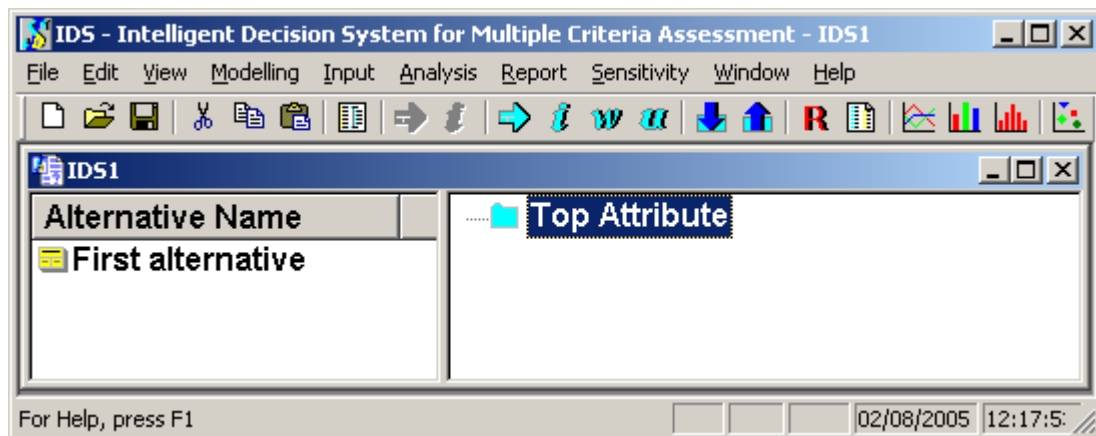
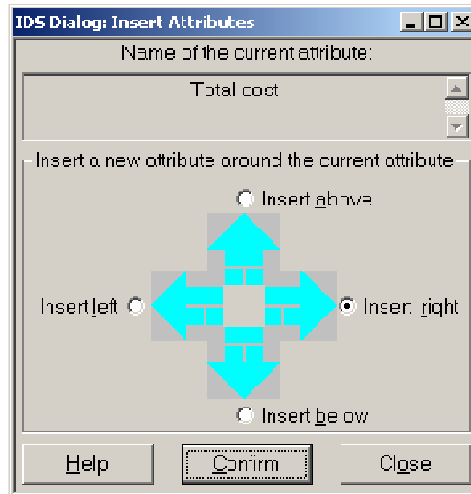
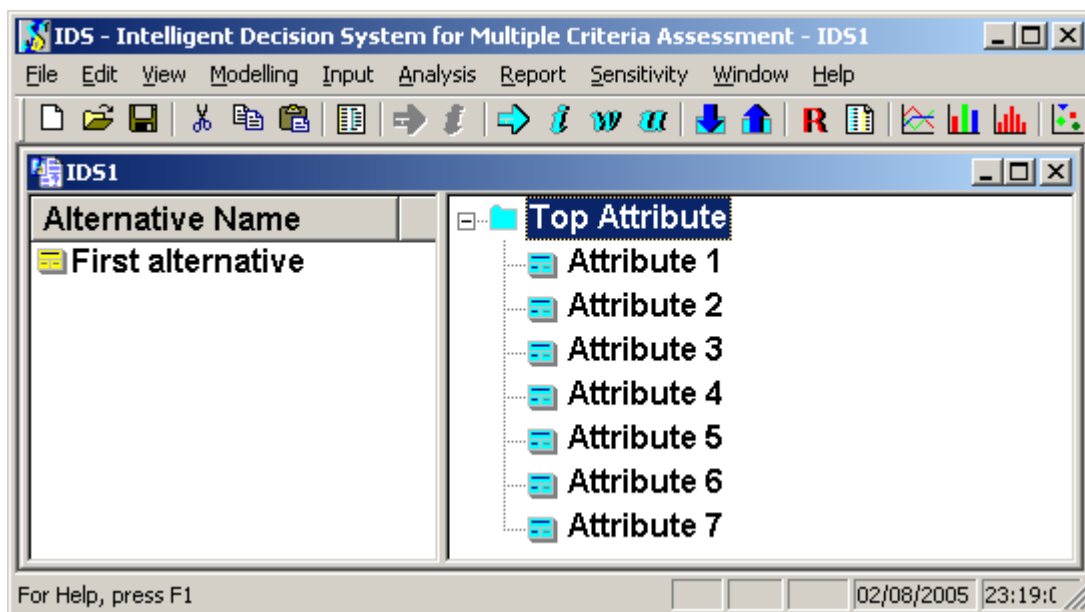

Figure 2.2 A New IDS Model Window
Figure 2.3 IDS Dialog: Insert Attributes
Figure 2.4 Attribute Hierarchy Skeleton
By doing so, a window similar to **Figure 2.2** will open. There is only one alternative and one attribute initially. Note that in IDS all alternative boxes are marked yellow and all attribute boxes are marked blue.
Left click the mouse (we simply use “click” in the manual to represent a left click) once anywhere on the top attribute, named Top Attribute by default, and then click the blue arrow  on the Toolbar of IDS (**Figure 2.2**) to invoke the *IDS Insert Attributes* dialog window (**Figure 2.3**). From the window, select the *Insert right* radio button and then click the *Confirm* button once. Then select the *Insert below* radio button and click the *Confirm* button 6 times. Now you should have an attribute hierarchy with one top attribute and seven 2nd level attributes (**Figure 2.4**).
Bottom level and higher level attributes are defined differently. To define a higher level attributes, such as the top one, select the attribute by clicking on the attribute box once (**Figure 2.4**) and then right click on the same box or click the  icon (see
- Select the attribute you wish to define by clicking on the attribute box, *Attribute 1* (**Figure 2.4**)
- Right click on the box or click the  icon on the Toolbar (**Figure 2.4**) to open the *IDS Dialog: Define An Attribute* window